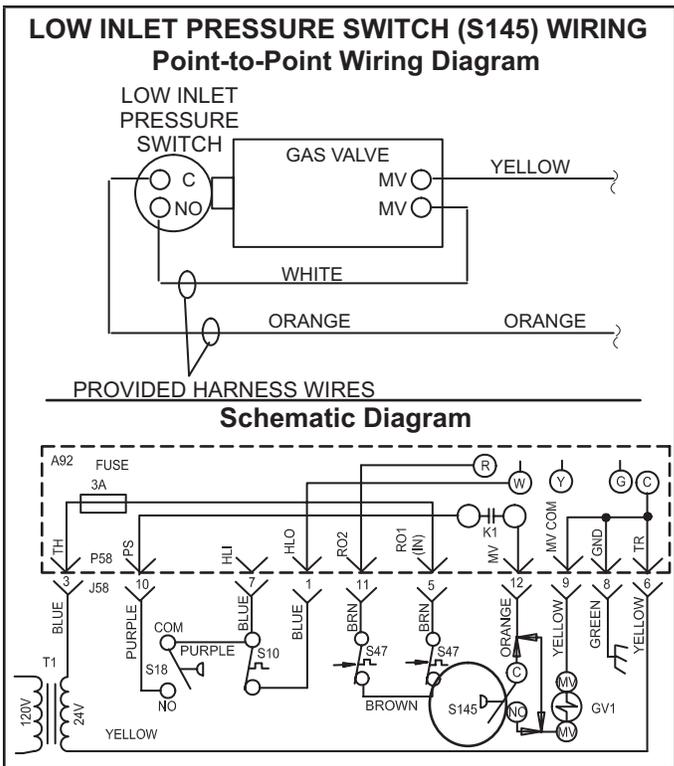

FIGURE 8
- 11 - Thread pressure switch (S145) to fitting 2 to 3 turns past hand tight, then wire as shown in figure 8.